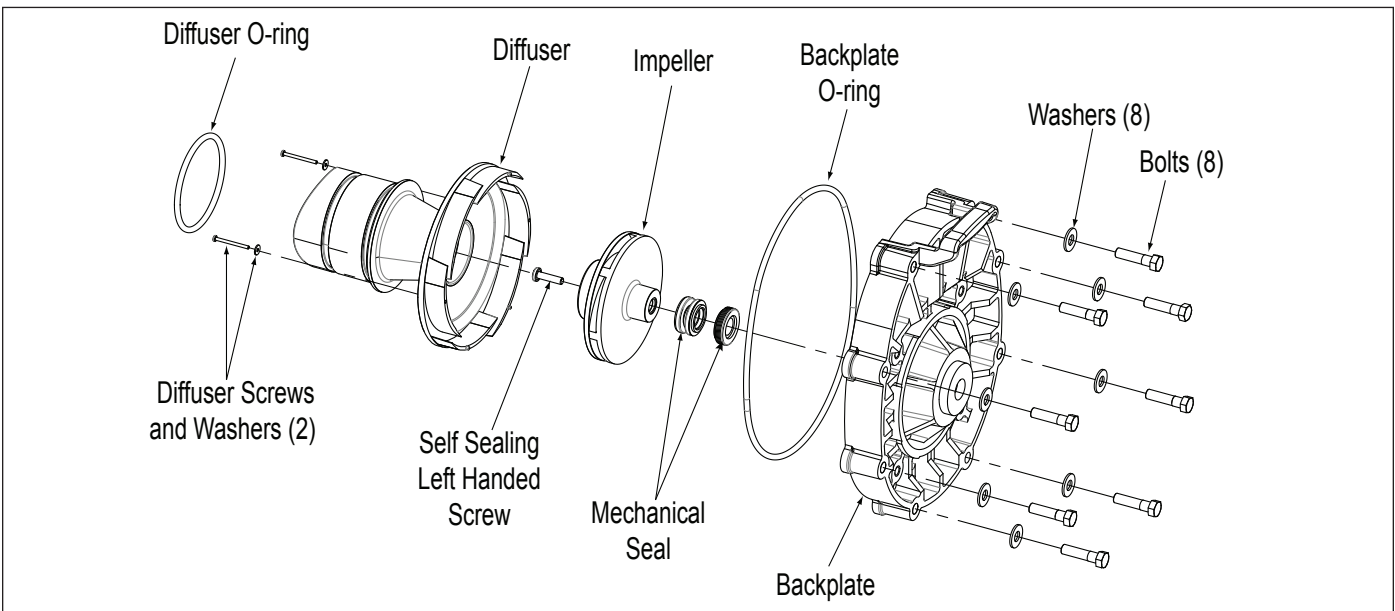

Figure 14. Diffuser and Impeller Exploded View
10. Inspect the impeller and diffuser for signs of rubbing and/or damage. Refer to Figure 14.